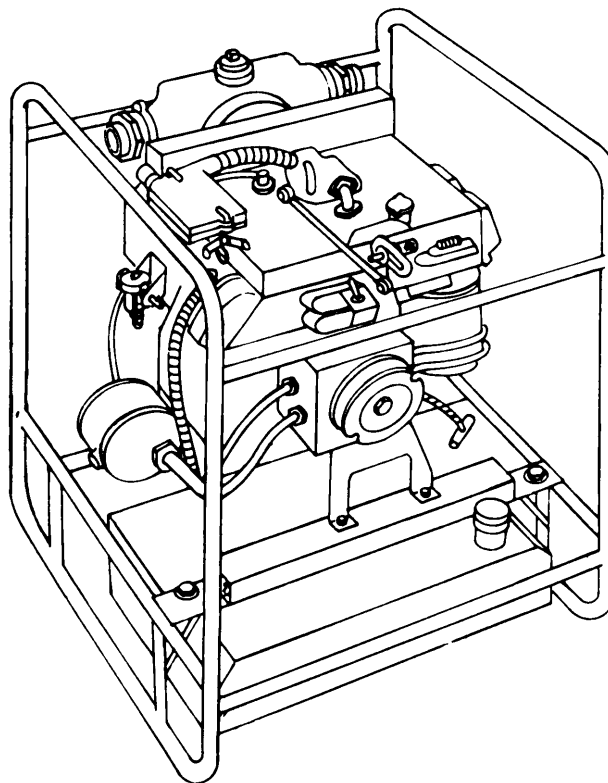

Figure 1-1. Centrifugal pump.
a. This manual covers Centrifugal Pump, Military Design Model 2-170-50-G. It contains operating instructions, and maintenance instructions for Operator, Organizational, and Direct Support Maintenance. The pump (figure 1-1) is used to pump fresh water.